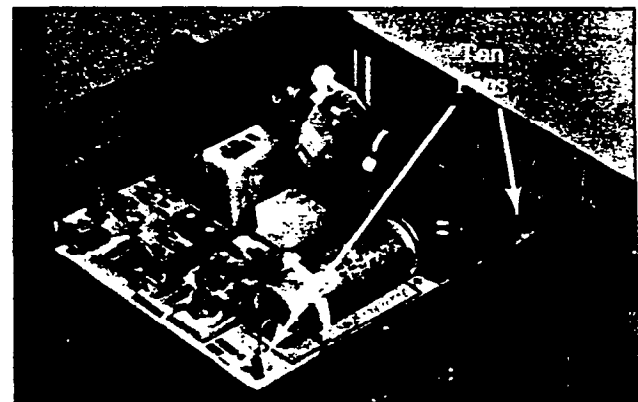

FIGURE 15—PBBU MOUNTING PINS
02.24 Align the two tan-colored PBBU pins with the two holes in the mounting bracket. The harness should flow around the PBBU PCB, with no wires beneath it (Figure 15). Press the pins into the holes until they catch.